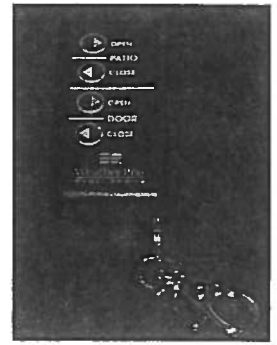

Figure 13-3. Dometic Awning Key Fob Controller
3. One can either use the **control box** (Figure 13-2) or the **key fob** (Figure 13-3) to deploy the awning. For the control box, press the rocker switch upwards to extend the awning; for the key fob, press the “extend” button on the key fob—either action will cause the awning to deploy to its fully extended position. If there is a remote switch inside the motor home, one can activate the awning from inside the motor home by pressing the rocker switch upwards to the “extend” position.